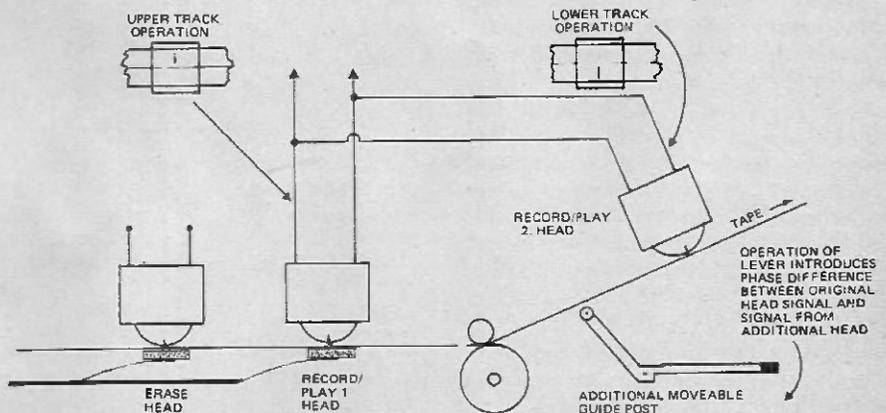

Fig. 10 Phasing system for use with 2 head mono machine
- (c) Using a 2-head mono machine (Fig. 10), an additional head is wired in parallel to operate on the unused track, the lower one if it is a half track recorder. The recording is made on a clean tape. During recording or, if